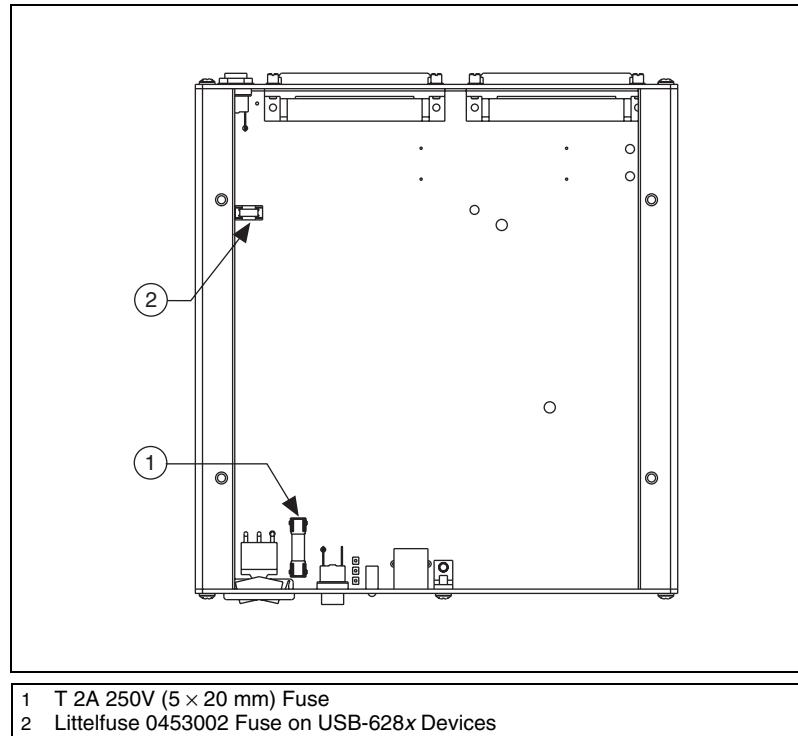

Figure 3-7. USB-62xx Mass Termination Fuse Locations
4. Replace the broken fuse while referring to Figure 3-7 for the fuse locations.